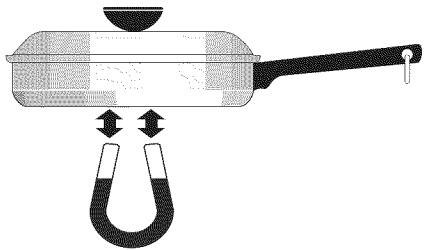

Fig. 5
When purchasing pans, look for cookware specifically identified by the manufacturer for use with Induction cooktops. If you are not sure, use a magnet to test whether the cookware type will work. If a magnet sticks to the bottom of the cookware, the material type is correct for Induction cooking (Fig. 5).
- Use cookware made with the correct material type for Induction Cooking (Fig. 5).